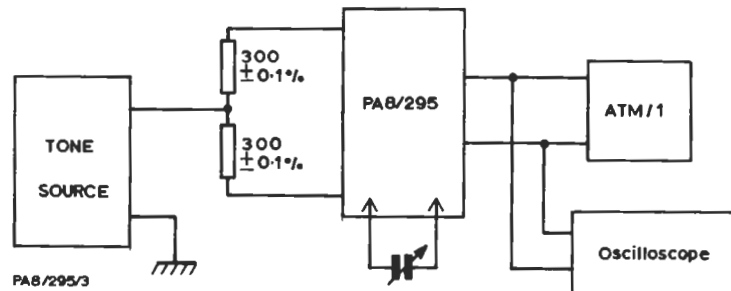

Fig. 3. Input Balance Test Circuit for PA8/295
- Set up the test circuit given in Fig. 3. The balanced 600-ohm load is connected to each input in turn, and 10-kHz tone at zero level is applied between the centre point of the load and chassis earth.